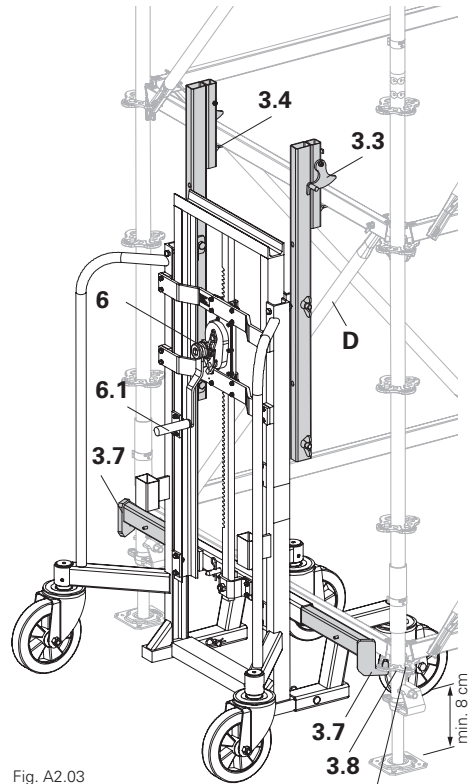

Fig. A2.03
3. Raise the load by turning the hand crank (6.1) in a clockwise direction. The safety pawls (3.3) are automatically pushed upwards at the rear, fall in a forward direction and thus secure the Ledger against lifting. (Fig. A2.03)
A2.6 PERI UP Rosett Spindle Extension: Min. 8 cm. (Fig. A2.03)